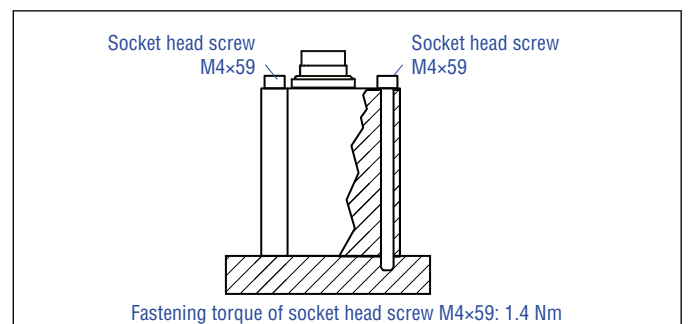

Fig. 21: Mounting with socket head screws M4×59
3. Mount the sensor electronics housing using the three M4×59 hexagon socket screws made of non-magnetic material. Tightening torque: 1.4 Nm (Fig. 21). Secure the screws before installation, e.g. with Loctite 243. Remove the three knurled nuts beforehand.
- Mount the sensor electronics housing to the sensor rod or HFP profile using three M4x59 hexagon socket screws made of non-magnetic material: Tightening torque: 1.4 Nm (Fig. 21). Secure the screws before installation, e.g. with Loctite 243. Remove the three knurled nuts beforehand.
- Mount the sensor via flange using the three M4×59 hexagon socket screws made of non-magnetic material. Tightening torque: 1.4 Nm (Fig. 21). Remove the three knurled nuts beforehand.